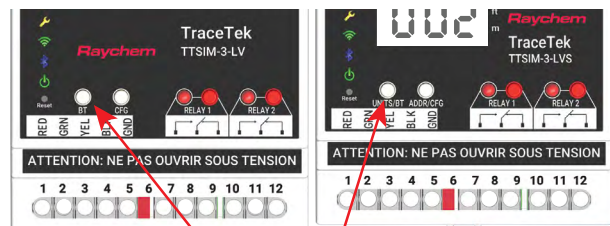

Figure 10. Bluetooth button
- Push the TTSIM-3/4 Bluetooth button for 1 second for device pairing as shown in Figure 10.